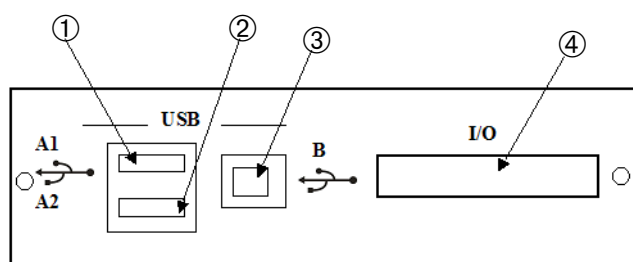

Figure 1-10 Optional I/O PCB Rear Panel
| ② Cover Plate | Access to expansion slot. This is not used when an optional I/O PCB is installed. A rear panel of the optional I/O PCB is shown in Figure 1-10 on page 1-20. |
A rear panel for the optional I/O PCB assembly is shown in Figure 1-10.